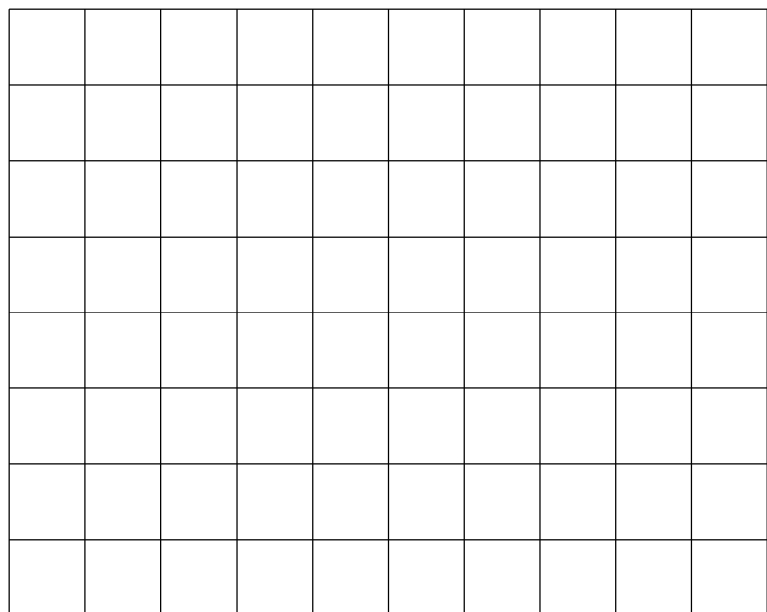

Fig. 15.2.3: Phase shift,  $U_{tot}$  to  $U_R$
- Adjust the oscilloscope so that to ease measurements, the phase shift between the voltages is clearly seen. Draw one period of the voltage waveform in the chart below (Fig. 15.2.3).